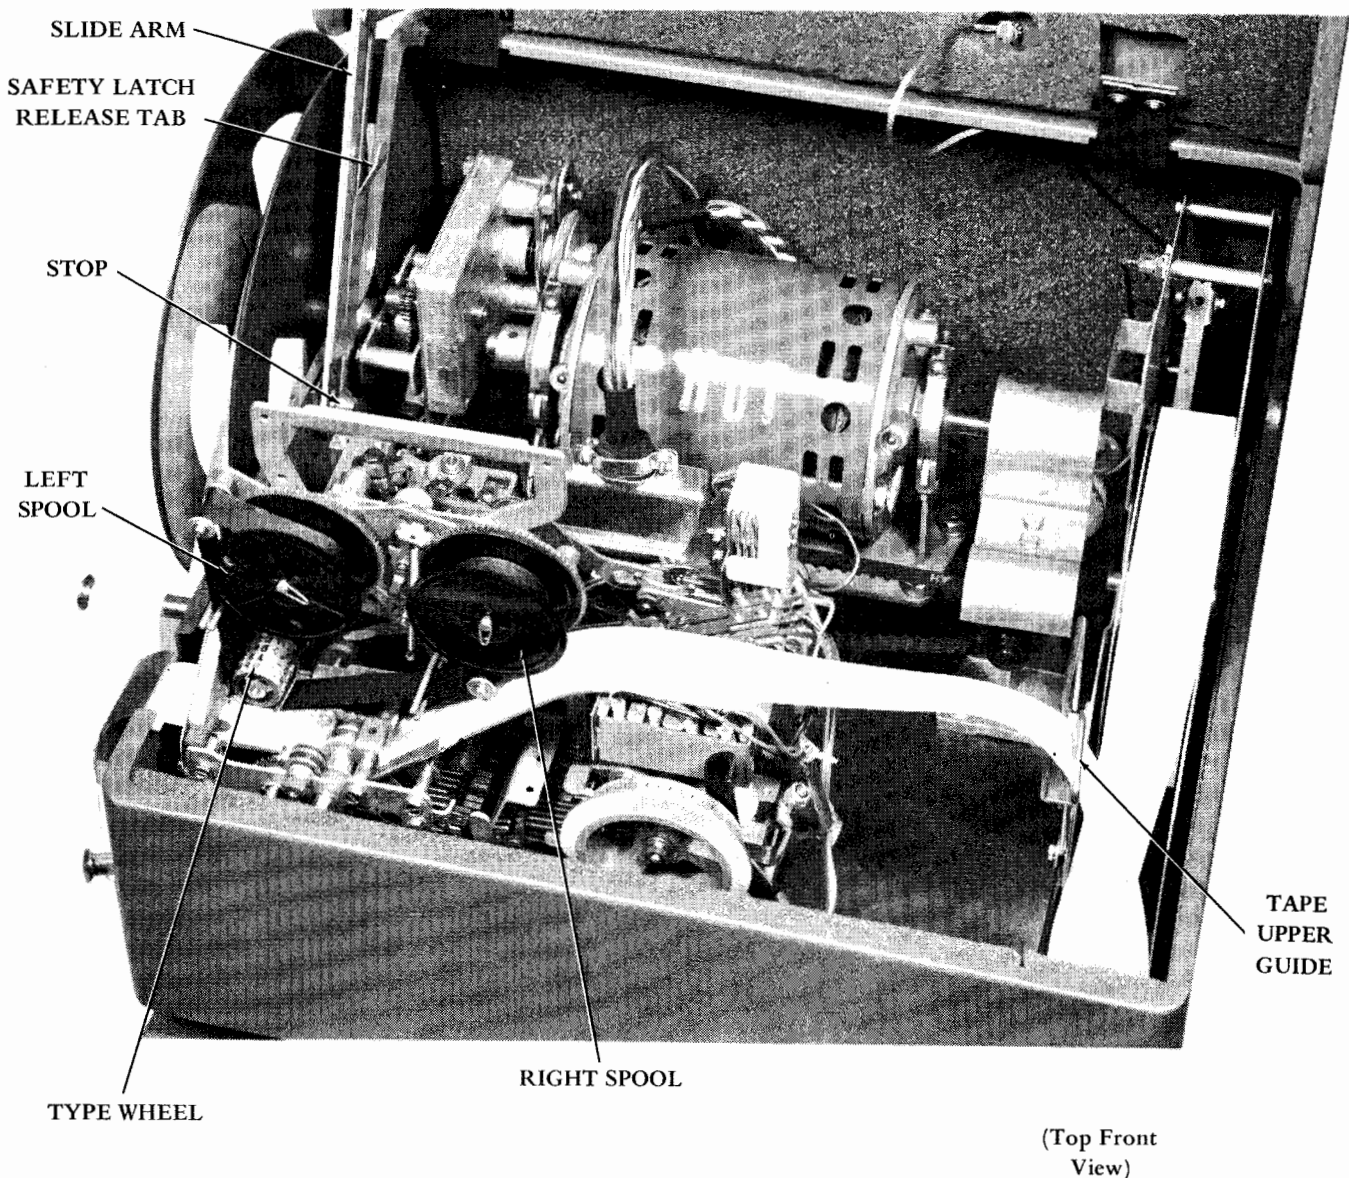

Figure 4 - ROTR Ribbon and Tape Installation
2.02 Open the cover lid. A slide arm with a safety latch will hold the lid open. Close the lid by depressing the release tab and raising the lid to its limit. Next, lift the lower end of the slide arm and lower the lid with the release tab depressed. When the latch starts sliding over the top of the stop, release the safety latch (Figure 4).
4. RIBBON INSTALLATION (Figure 4)
5. PAPER TAPE INSTALLATION (Figures 4 and 5)